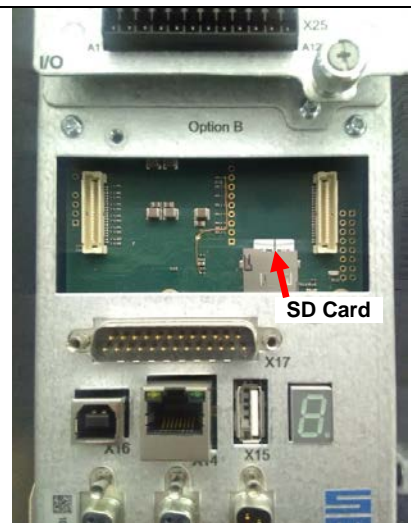

Figure 5-17
- Step 8. The SD card is now accessible and can be seen in the old drive. (Refer to Figures 5-17)